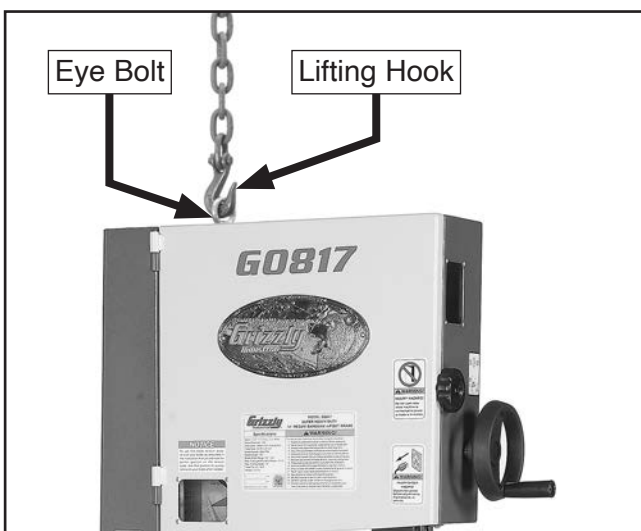

Figure 21. Lifting bandsaw with eye bolt and chain.
3. Install eye bolt. Make sure it is threaded all the way in, then place lifting hook through eye bolt (see **Figure 21**) and lift bandsaw slowly with forklift enough to clear pallet.